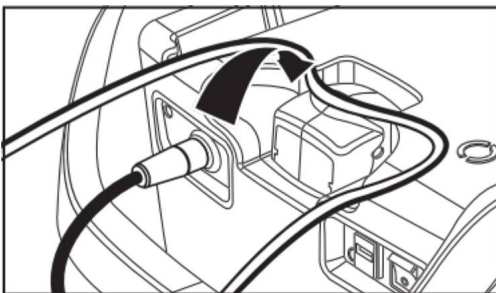

Figure 6. Loading Saline Flush Line into Saline Pump.
4. Place the Saline Flush Line in the Saline Pump. Ensure Saline Flush Line is seated such that the Saline Pump door can close smoothly. Align the color indicators on the generator and saline flush line (Figure 6).